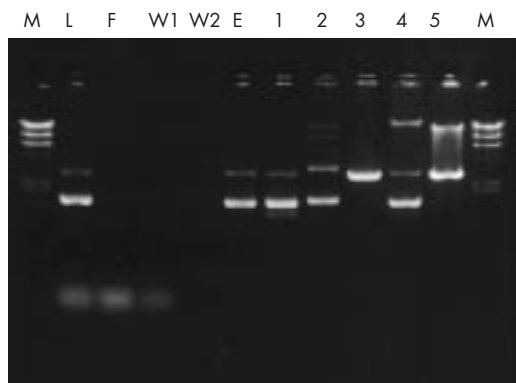

Figure 2: Agarose gel analysis of plasmid purification procedure.
- c) Plasmid has formed denatured supercoils This species runs faster than closed circular DNA on a gel and is resistant to cutting. Do not incubate cells for longer than 5 min in Buffer P2 (see Figure 2, page 26).
After harvesting and resuspension, the bacterial cells are lysed in NaOH/SDS (Buffer P2) in the presence of RNase A (1,2). SDS disrupts the phospholipid and protein components of the cell membrane, leading to lysis and release of the cell contents. NaOH denatures the chromosomal and plasmid DNAs, as well as proteins. The optimized lysis time allows maximum release of plasmid DNA without release of chromosomal DNA, while minimizing the exposure of the plasmid to denaturing conditions. Long exposure to alkaline conditions may cause the plasmid to become irreversibly denatured. This denatured form of the plasmid runs faster on agarose gels and is resistant to restriction enzyme digestion (see Figure 2, page 26).
The QIAGEN-tip is then washed with buffer containing 1 M NaCl (Buffer QC) which completely removes any remaining contaminants, such as traces of RNA and protein (e.g. RNase A), without affecting the binding of the plasmid DNA (see Figure 2, page 26). Buffer QC also disrupts nonspecific interactions, and allows removal of nucleic acid-binding proteins without the use of phenol. The low concentration of alcohol in the wash buffer eliminates nonspecific hydrophobic interactions, further enhancing the purity of the bound DNA. The plasmid DNA is then efficiently eluted from the QIAGEN-tip with Buffer QF containing 1.25 M NaCl at pH 8.5. For further information about QIAGEN Anion-Exchange Resin, see Appendix C (page 29).
A 1% analytical agarose gel comparing the fractions at each stage of the QIAGEN purification procedure is shown in Figure 2. The entire procedure, including the efficiency of plasmid recovery, can be easily monitored by saving equal proportions of each fraction and precipitating the nucleic acids with isopropanol before loading them on the gel.